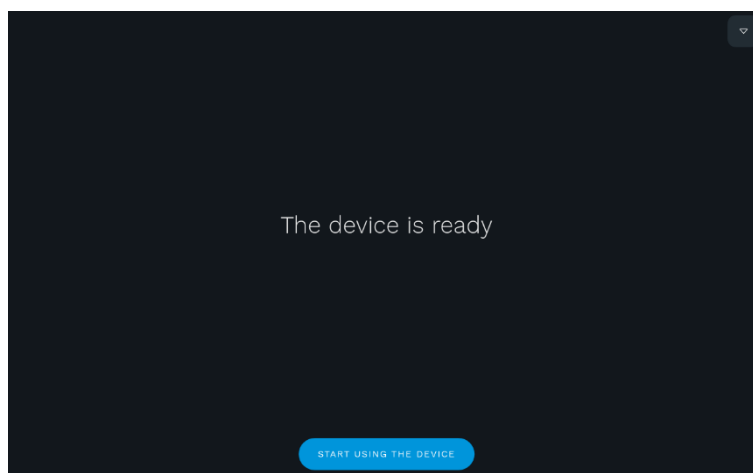

Fig. 26 - End of the Configuration Wizard
13. Start using the device (Fig. 26)